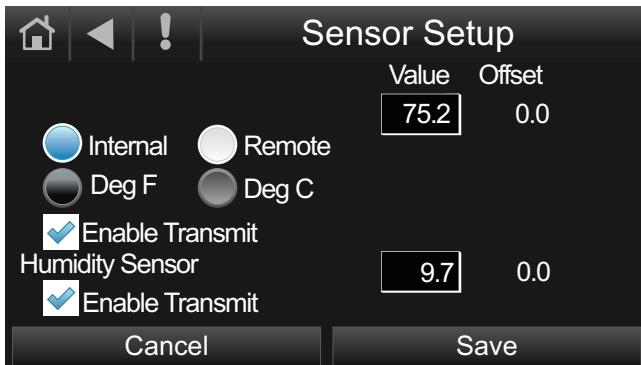

Fig. 14 – Sensor Setup – Enable Transmit Selection
3. Select the check box 'Enable Transmit' for both 'Temperature Sensor' and 'Humidity Sensor' (see Fig. 14).